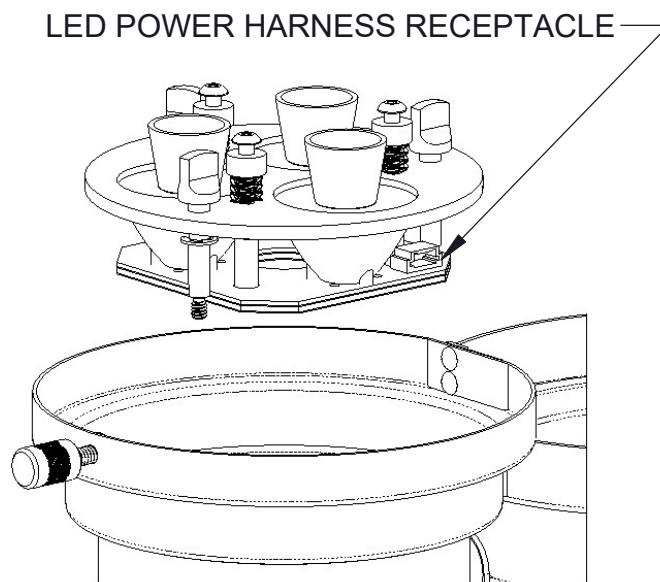

FIGURE 16. LED POWER HARNESS RECEPTACLE
4. REMOVE THE LED POWER HARNESS FROM THE RECEPTACLE ON THE LED BOARD (**FIG. 16**).
6. RECONNECT THE LED POWER HARNESS TO THE RECEPTACLE ON THE NEW LED BOARD (**FIG. 16**).